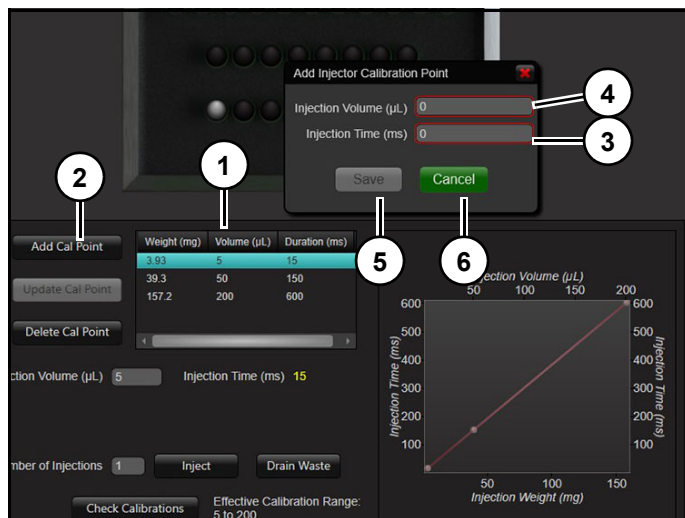

Figure 11
Refer to (Figure 11).
In (Figure 11), Aux 2 Valve has volume points for 5 µL, 50 µL, and 200 µL (1).
1. Click "Add Cal Point" (2).
2. Enter estimated time (ms) in "Injection Time" (3).
3. Enter estimated delivery volume (µL) in "Injection Volume (µL)" (4).